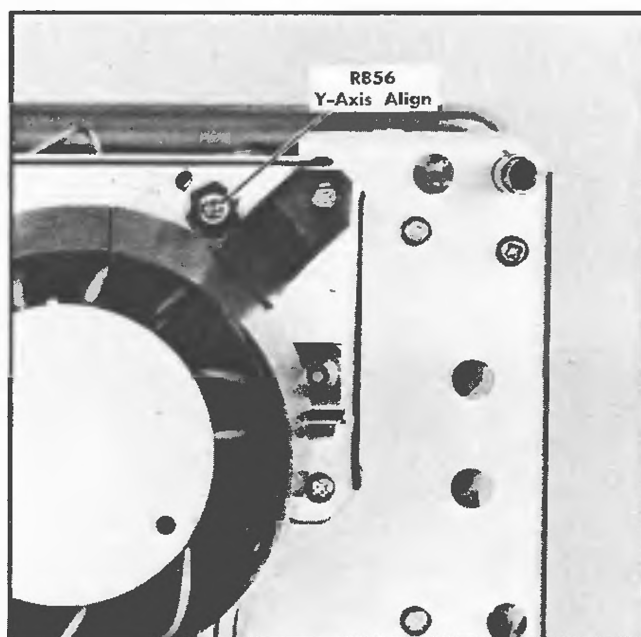

Fig. 6-11. Location of Y Axis adjustment (rear panel).
- ADJUST**—Y Axis Align adjustment, R856 (see Fig. 6-11), to align the markers with the centerline.